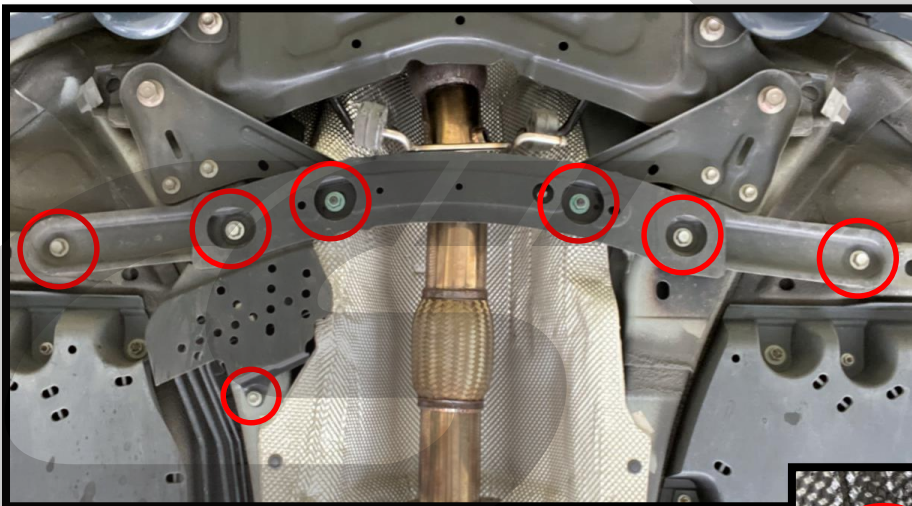

Figure 3e
- f) Remove the forward chassis brace by removing the six 17mm bolts/nuts and one 10mm bolt circled in red in Figure 3e.